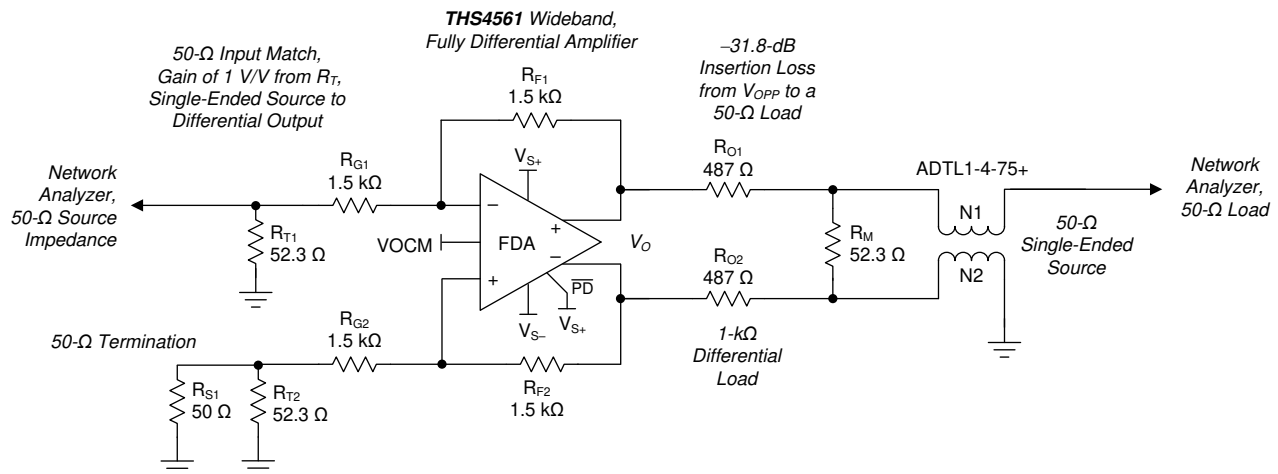

Figure 8-1. Single-Ended Source to a Differential Gain of a 1-V/V Test Circuit
at T_A ≈ 25°C, V_{OCM} pin = open, R_F = 1.5 kΩ, R_L = 1 kΩ, V_O = 2 V_{PP}, 50-Ω input match, G = 1 V/V, $\overline{PD} = V_{S+}$, single-ended input, differential output, and input and output referenced to default midsupply for AC-coupled tests (unless otherwise noted); see Figure 8-1 for a gain of 1-V/V test circuit.
at T_A ≈ 25°C, VO_{CM} pin = open, R_F = 1.5 kΩ, R_L = 1 kΩ, V_O = 2 V_{PP}, 50-Ω input match, G = 1 V/V, \overline{PD} = V_{S+}, single-ended input, differential output, and input and output referenced to default midsupply for AC-coupled tests (unless otherwise noted); see Figure 8-1 for a gain of 1-V/V test circuit.
5 MHz, 2-V_{PP} input, G = 1 V/V, see Figure 8-1
at T_A ≈ 25°C, VO_{CM} pin = open, R_F = 1.5 kΩ, R_L = 1 kΩ, V_O = 2 V_{PP}, 50-Ω input match, G = 1 V/V, $\overline{PD} = V_{S+}$, single-ended input, differential output, and input and output referenced to default midsupply for AC-coupled tests (unless otherwise noted); see Figure 8-1 for a gain of 1-V/V test circuit.
The characterization circuits are typically operated with a single-ended, matched, 50-Ω, input termination to a differential output at the FDA output pins because most lab equipment is single-ended. The FDA differential output is then translated back to single-ended through a variety of baluns (or transformers) depending on the test and frequency range. DC-coupled step response testing uses two 50-Ω scope inputs with trace math to measure the differential output. Single-supply operation is most common in end equipment designs. However, using split balanced supplies allows simple ground referenced testing without adding further blocking capacitors in the signal path beyond those capacitors already within the test equipment. The starting point for any single-ended input to differential output measurements (such as any of the frequency response curves) is shown in Figure 8-1.
Most characterization plots fix the R_F ($R_{F1} = R_{F2}$) value at 1.5 kΩ, as shown in Figure 8-1. This element value is flexible in application, but 1.5 kΩ provides a good compromise for the parasitic issues linked to this value, specifically:
- Added output loading: The FDA functions similarly to an inverting op amp design with feedback resistors appearing as an added load across the outputs (the approximate total differential load in Figure 8-1 is $1.5\text{ k}\Omega \parallel 1\text{ k}\Omega = 857\ \Omega$). The 1.5-kΩ value reduces the power dissipated in the feedback networks.
The frequency domain characterization curves start with the circuit and component selections of Figure 8-1. Some of the features in this test circuit include:
- Translating from a 1-k Ω differential load to a 50- Ω environment introduces considerable insertion loss in the measurements (-31.8 dB in Figure 8-1). The measurement path insertion loss normalizes when reporting the frequency response curves to show the gain response to the FDA output pins.
Starting from the test circuit of Figure 8-1, various elements are modified to show the effect of these elements over a range of design targets, specifically:
- Resistive and capacitive output load testing. Changing to lower resistive loads is accomplished by adding parallel resistors across the output pins in Figure 8-1. Changing to capacitive loads adds series output resistors to a differential capacitance before the 1-k Ω sense path of Figure 8-1.